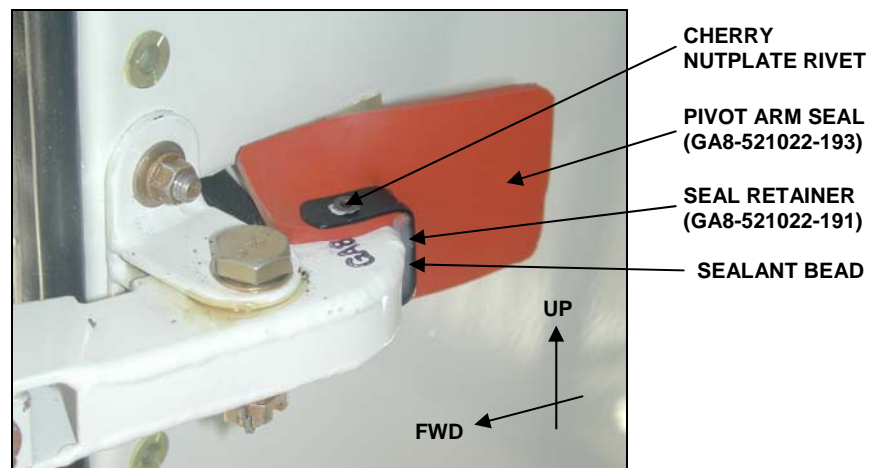

Figure 7: Installation of new pivot arm seal.
10. If the installed pivot arm seal is not manufactured from the currently used VSR3 silicone baffle seal material (coloured orange per Figure 7), complete Steps 11 and 12. If there is no pivot arm seal installed, continue from Step 12. Otherwise continue from Step 13.
12. Ensure the door handle is in the closed position and locate new pivot arm seal (GA8-521022-193) for best sealing. Reinstall the seal retainer (P/N GA8-521022-191) using two CCR264CS3-4 blind rivets. If required, locate the seal retainer over the pivot arm seal and drill a 3/32" diameter (#40) hole through the retainer holes, the seal and the pivot arm before installing the nutplate rivets. Apply a bead of Dow Corning Silastic 747 Silicone RTV Adhesive/Sealant along the outer middle edge of the seal retainer. Figure 7 shows the completed installation of the new seal around the pivot arm.